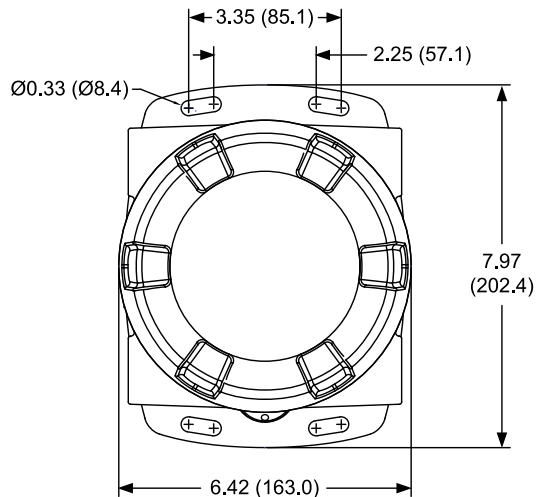
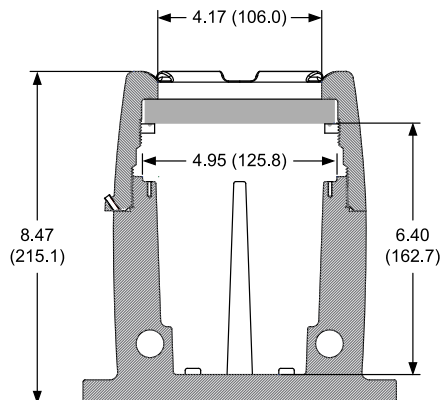

Figure 1. Enclosure Dimensions – Front View
Figure 2. Enclosure Dimensions – Side Cross Section View
The ProtEX-MAX has two slotted mounting flanges that may be used for pipe mounting or wall mounting. Refer to *Figure 1* and *Figure 2* below.
- Prepare a section of wall approximately 7" x 8.5" (178 mm x 216 mm) for totalizer mounting by marking with a pencil the mounting holes (shown in *Figure 1*) on the wall.
- Select the appropriate mounting screws for the mounting surface to be used. The mounting holes diameter is shown on *Figure 1*.